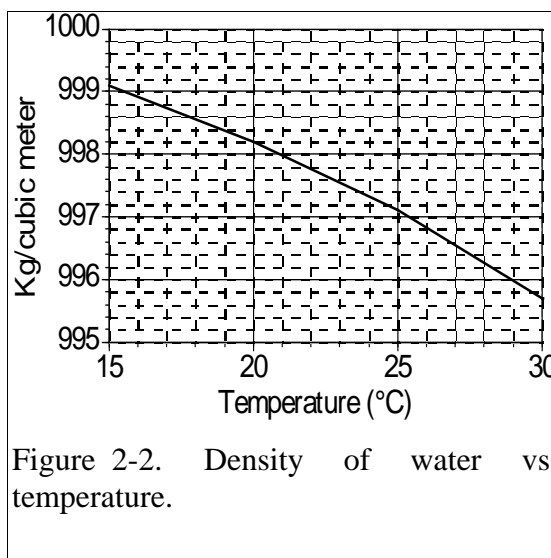

Figure 2-2. Density of water vs. temperature.
- 1) Use Figure 2-2 to estimate the mass of 990 μL of distilled water (at the measured temperature).
- 2) Use a 100-1000 μL digital pipette to transfer 990 μL of distilled water to a tared weighing boat on either the *AdventurerPro* or *Galaxy* analytical balance. Record the mass of the water and compare with the expected value (Figure 2-2). Repeat this step if necessary until your pipetting error is less than 2%, then measure the mass of 5 replicate 990 μL pipette samples. Calculate the mean (\bar{x} defined in equation 2.7), standard deviation (s defined in equation 2.8), and coefficient of variation, s/\bar{x} , for your measurements. The coefficient of variation (c.v.) is a good measure of the precision of your technique. For this test a c.v. < 1% should be achievable.